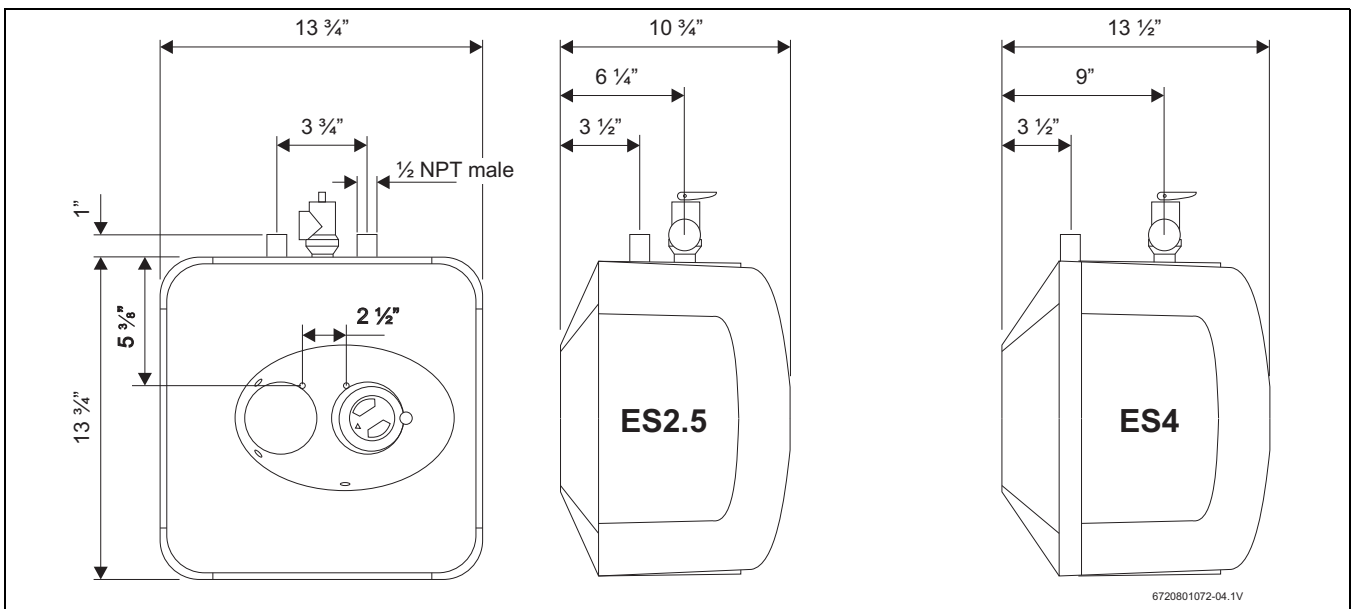

Fig. 5
- ▶ The supplied Temperature and Pressure Relief Valve will need to be installed on top. See location of T&P relief valve in Fig. 5 and 6.